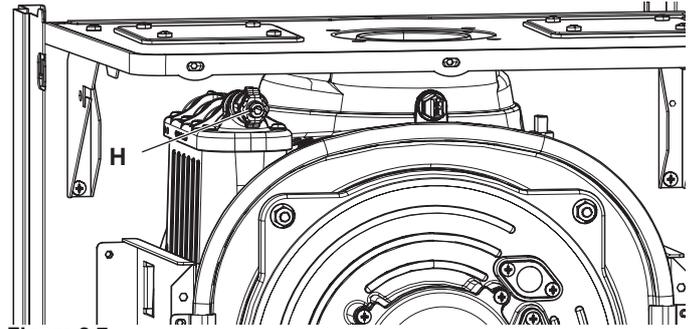

Figure 2.7
- 4 To help the draining of the primary circuit loose the condensating heat exchanger air purger valve H (Figure 2.7).